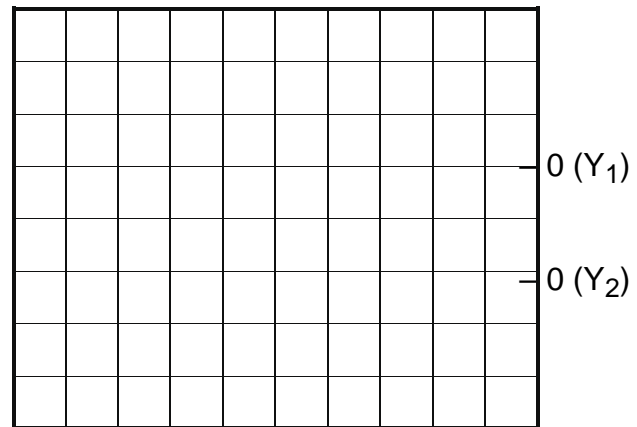

Fig. 12.1.2
- Make the other settings on the oscilloscope according to the specifications below the grid (Fig.12.1.2).
- Draw the displayed voltage curves in the grid (fig.12.1.2) and determine the phase angle φ .